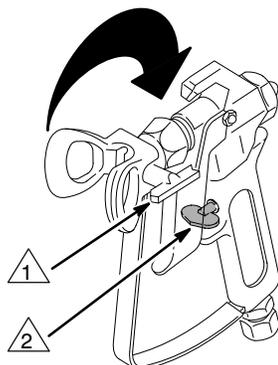

Fig. 5
1. If the spray tip does clog, release the gun trigger, engage the gun safety latch, relieve pressure, and rotate the RAC IV SwitchTip 180°. See Fig. 5.